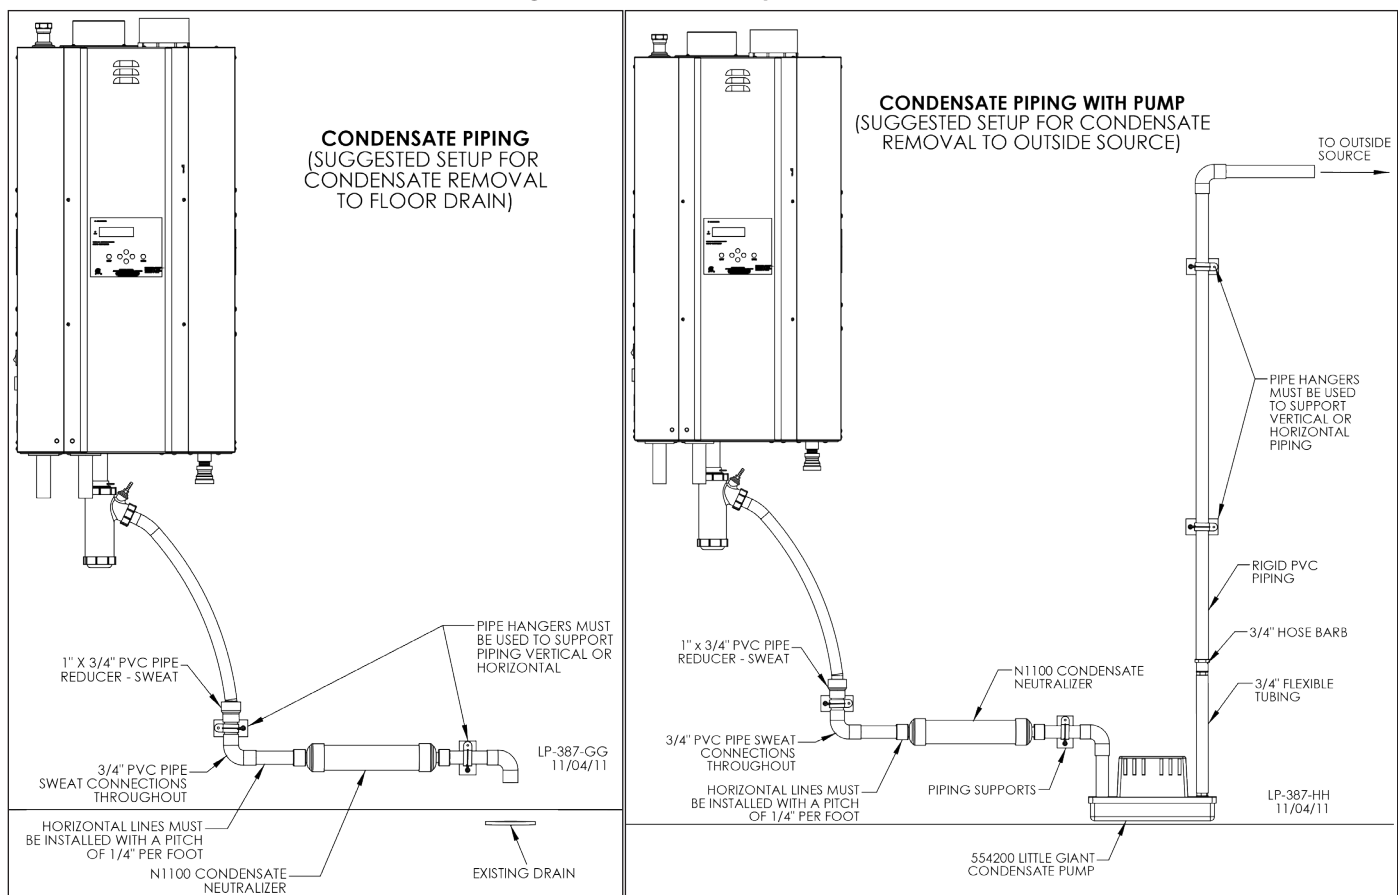

Figure 24 - Condensate Piping Suggestions
1. Ensure all parts shown in Figure 24, Condensate Detail, are included with the condensate trap. If any parts are missing, **DO NOT** install the trap. Replace the entire condensate assembly.